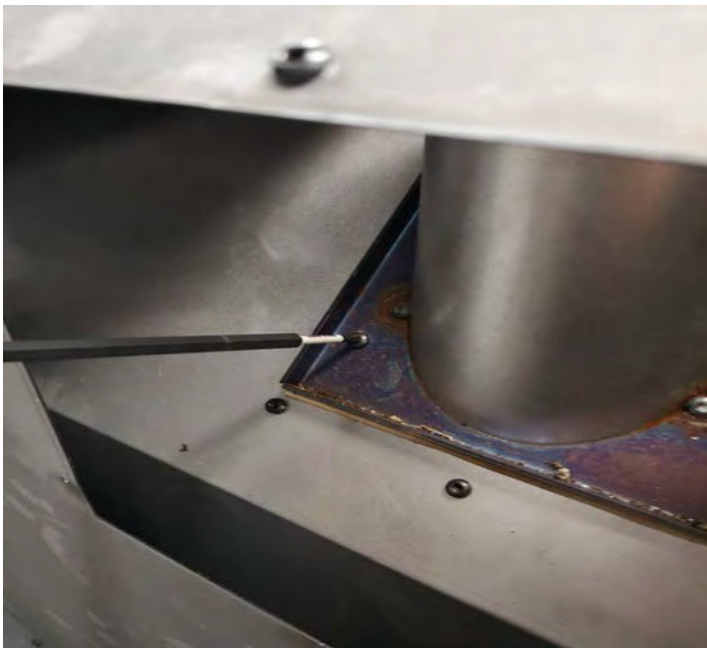

Figure 22: Vent Conversion 3.
- Remove the screws holding the flue to the unit (Figure 22).